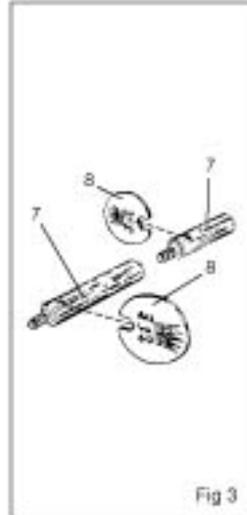

Fig 3
The components 1-5 are preassembled on delivery. Depending on the size of the penis either the short or the long extension bars are mounted by means of the round spanners provided (See fig. 3, page 9). The additional extension bars are required for later usage as lengthening of the penis occurs. The plastic support is mounted by introducing the ends of the bars (5) into the two big holes of the support. The support is then pressed towards the basal ring (1). The springs are thus pressed home. Pressure should be exerted until a snap or a click indicates that the support is firmly secured to the bars.